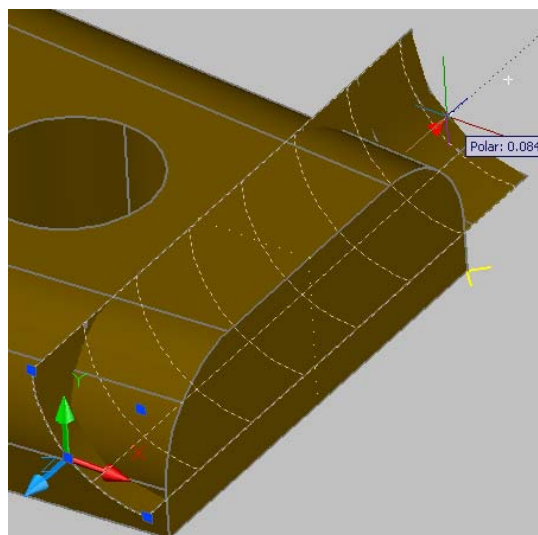

Figure 16
16. If the surface doesn't go completely through the solid, select the arrow shaped grip and stretch the surface out along the temporary UCS z-axis (-z) as shown in Figure 16. The goal is to have the surface completely slice through the solid at both ends.